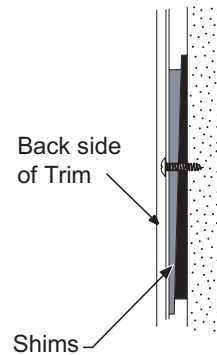

Figure 6
- Shim as necessary (shims are not included). See Figures 6, 7 and 8. Next, secure both ends of top trim (A) to cabinetry using two 3/4" mounting screw (M) through the holes at each end. Make sure all three screws are snug across the top.